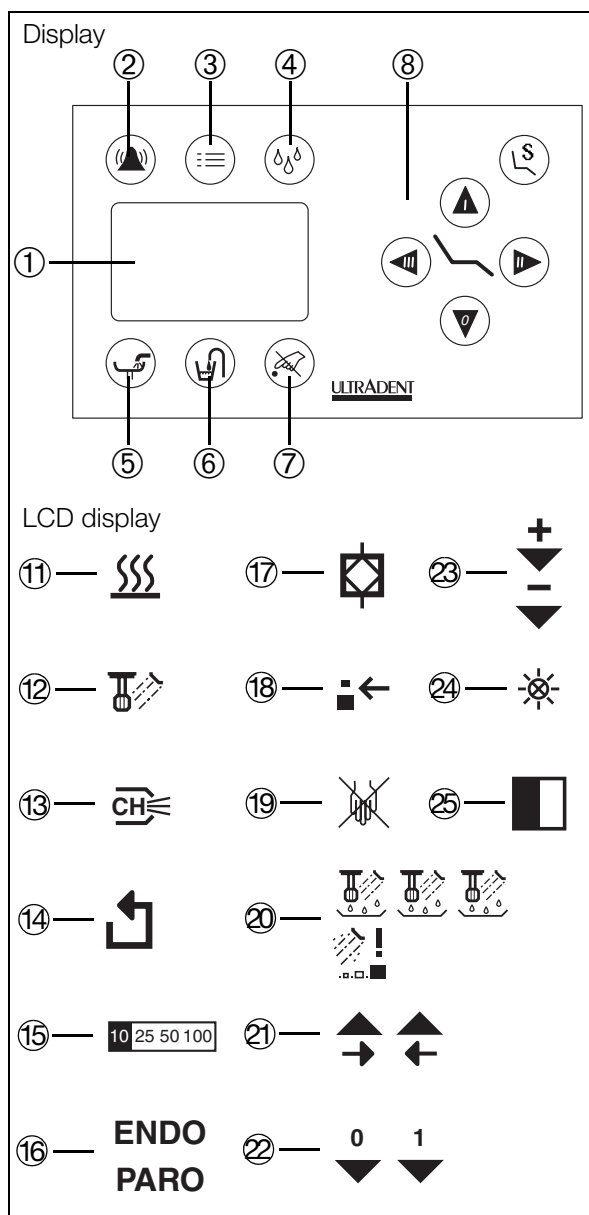

Fig. 81
The rotation direction (clockwise/anticlockwise) of the motor can be changed as required. The direction of rotation is changed using the appropriate button on the foot control. In anticlockwise mode, the display ⑭ (Fig. 81) lights up on the control panel.